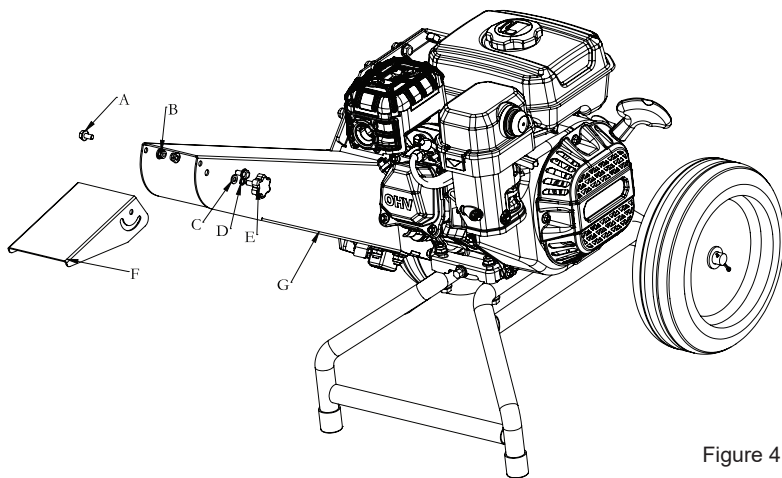

Figure 4
4. Affixing the discharge chute guide (See Figure 4)
- a. Secure the guide (F) to the discharge chute (G) with two M6*16 bolts (A) and two M6 nuts(B). After placement, the guide (F) should rotate freely.
- b. Secure the guide with a star handle (E), elastic washer(D), and flat washer(C).